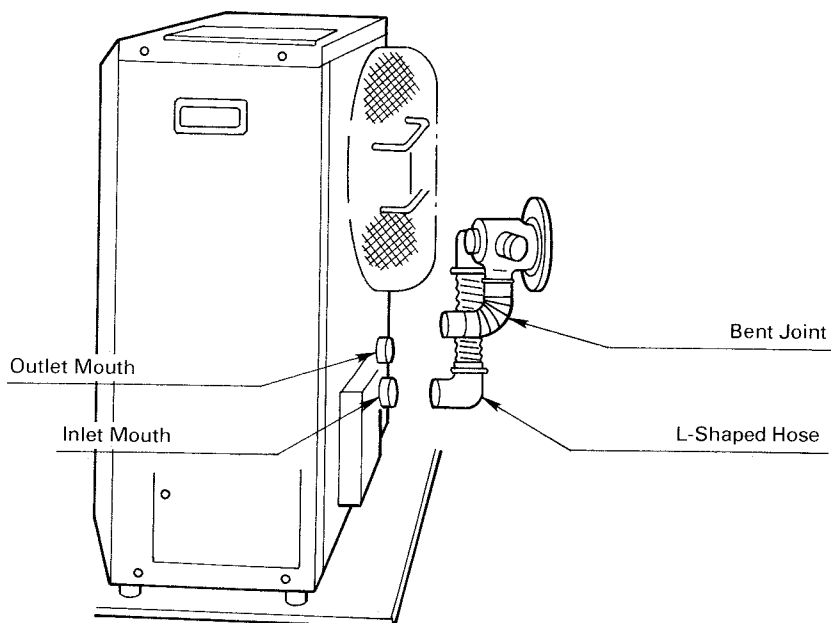

Fig. 16
10. Move the heater into position. Connect the bent joint to the exhaust outlet mouth (upper opening) and attach the L-shaped hose to the intake inlet mouth. Make sure all connections are tight (See Fig. 16).